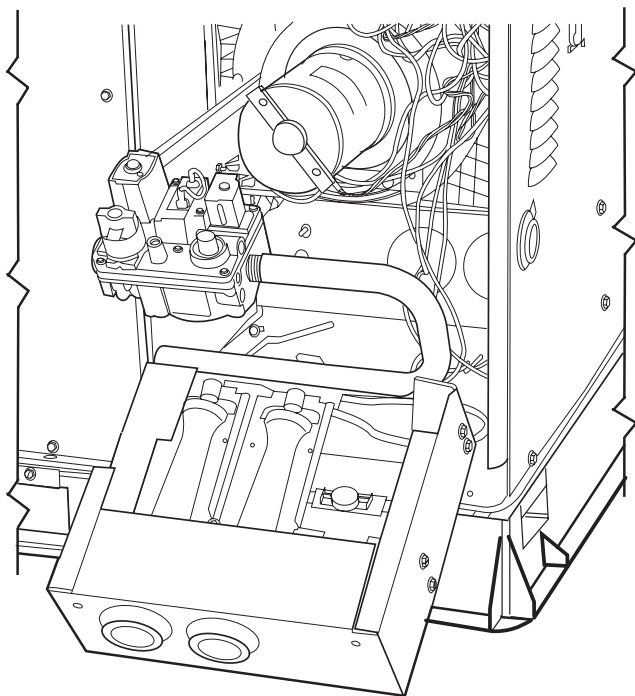

Fig. 24—Burner Rack Removed
3. Remove the 12 screws holding the flue collector box cover (See Fig. 24) to the heat exchanger assembly. Inspect the heat exchangers.
7. Remove the mounting screw that attaches the burner rack to the unit base (See Fig. 24).